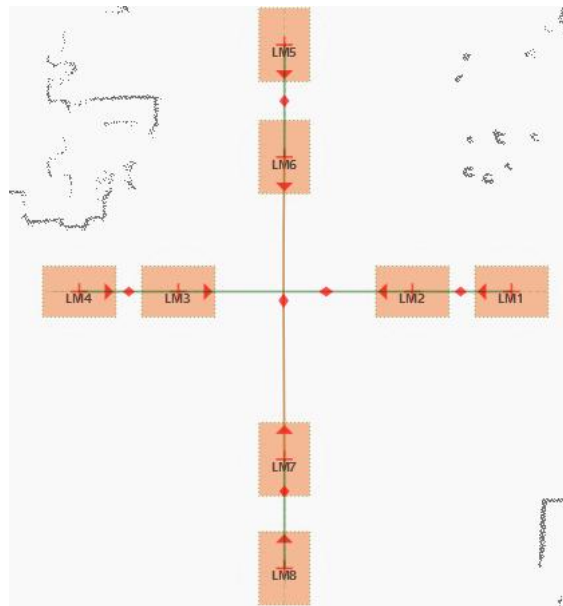

Figure 5-7 Database Configuration File
The following Figure 5-7 intersection example, LMx (dir) indicates that at the station LMx robot movement direction is dir, LM2 (3), LM3 (1), LM6 (4), LM7 (2) four intersection control points in the intersection control data table to achieve the way shown in Figure 5-5.